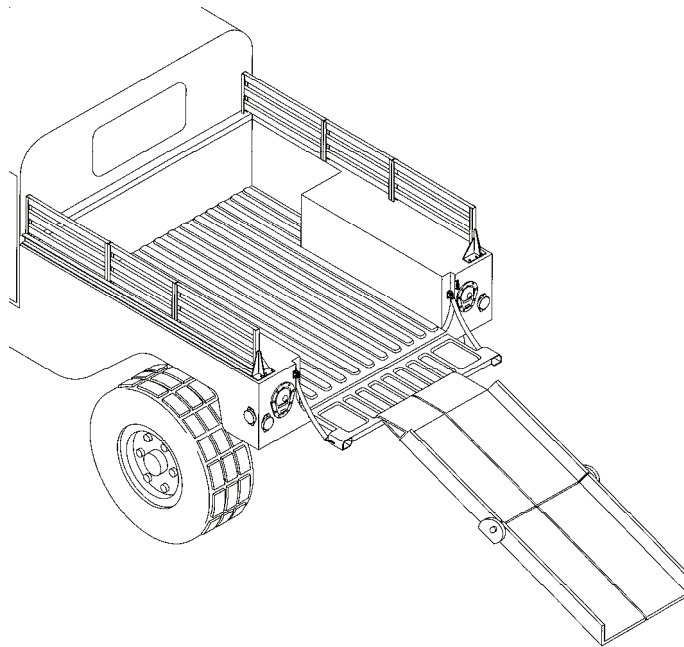

Figure 2. Foldable Ramp Installation.
4. Unfold 10-foot ramp. Position the ramp on the tailgate of the HMMWV. See Figure 2.